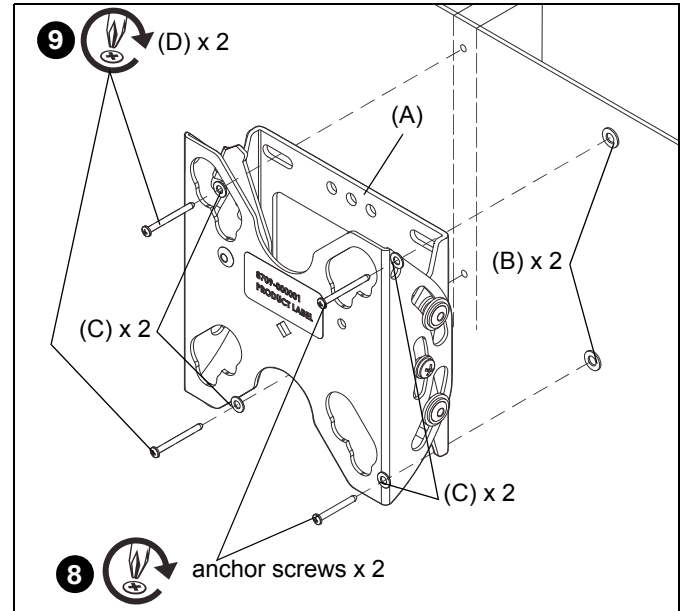

Figure 5
- Remove and retain anchor screws from anchors (B).
**NOTE:** Anchors (B) may come with small washers which may be left on the screw or discarded. These small washers do NOT replace #10 washers (C).
- Insert anchor screws through two #10 washers (C), FTR assembly (A) and install into collapsed anchors (B). (See Figure 5)
- Install two #10 x 2-1/2" Phillips tapping screws (D) through two #10 washers (C), FTR assembly (A) and into wood stud. (See Figure 5)